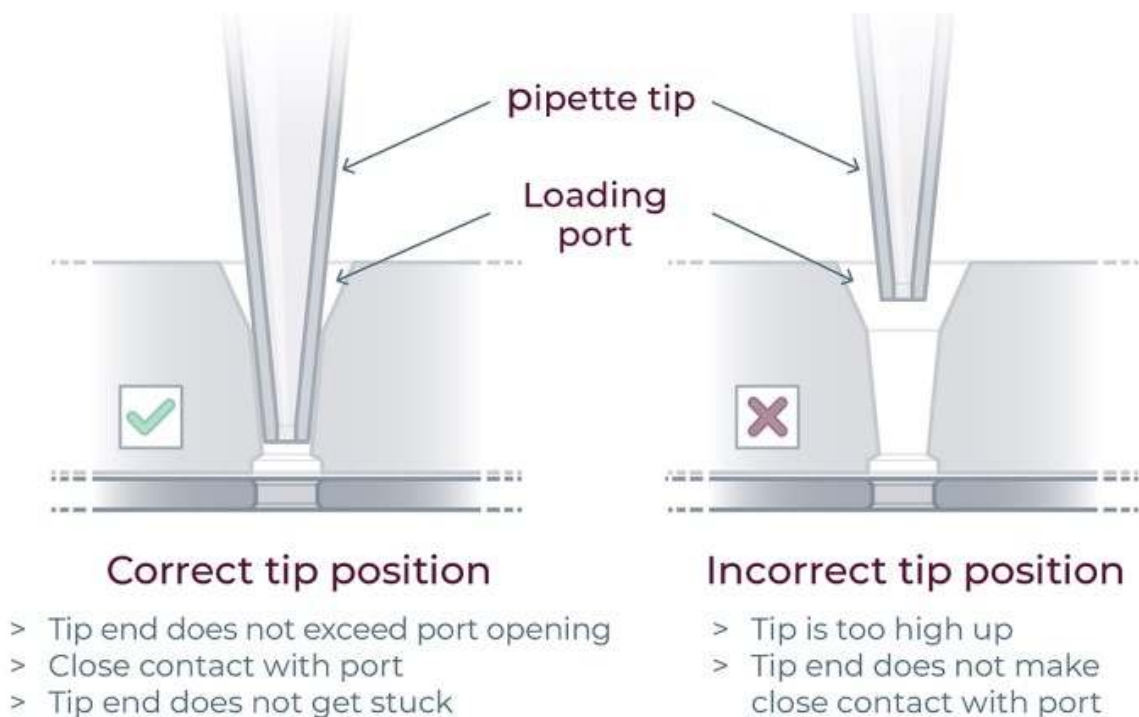

Figure 27: For manual correction of the reagent loading to correctly form the reservoirs on cartridge
- ▷ Re-engage the tip until reaching the bottom to the port and dispense the reagent slowly until correction is complete (Figure 27).